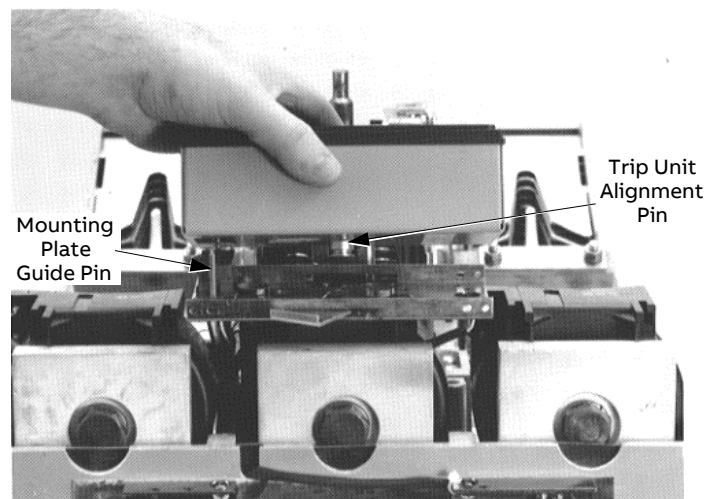

Figure 22. Installing the trip unit (800–2000 A breaker shown).
- b. Carefully line up the guide pins on the mounting plate with the holes in the rear of the trip unit, as shown in Figure 22. Align the pins in the connector on the rear of the trip unit with the plug on the mounting plate. The alignment pin on the rear of the trip unit must fit in the hole in the locking lever.